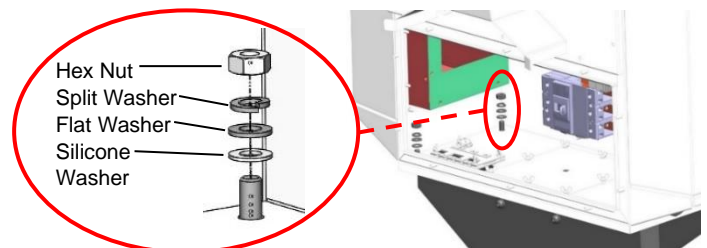

Figure 16—Securing charger to pedestal
- In bottom corners of charger, secure charger to pedestal studs using four sets of M10 silicone rubber washer, flat washer, split washer, and hex nut provided as shown in Figure 16; Tighten nuts to 446±10 in-lbs (50±10 N-m) torque.